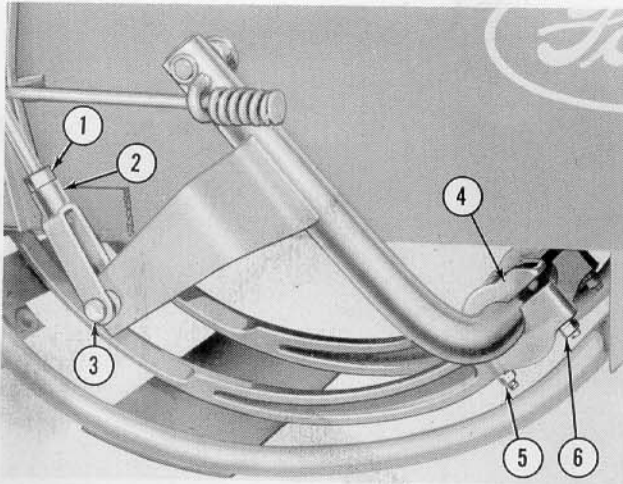
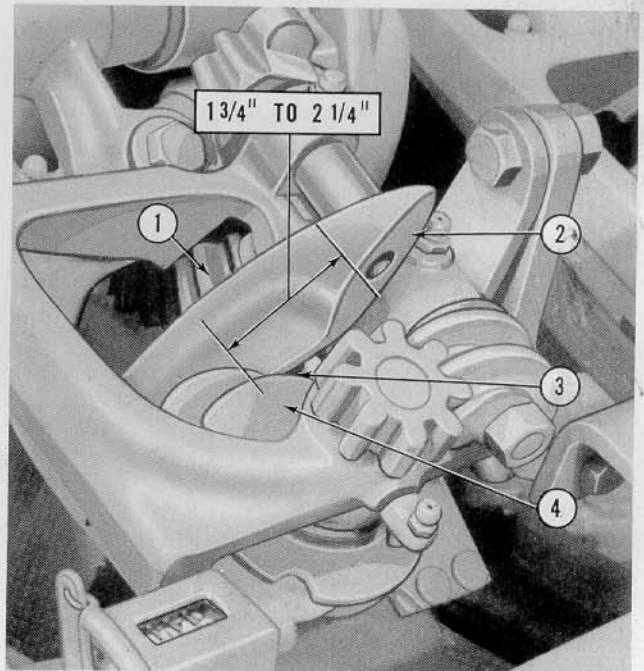

Figure 18
Figure 19
2. The clearance between the needles (2), Figure 19, and the twine discs (4) should be $\frac{1}{16}$ to $\frac{1}{8}$ inch as shown at (3). To bring the needles closer to the twine discs, loosen the rear bolts (6), Figure 18, on the needle clamp (4) and tighten the front bolts (5). To increase the distance, loosen the front bolts (5) and tighten the rear bolts (6).
3. The clearance between the needles (2), Figure 19, and the bill hook pinion (1) should be such that the needles just clear the pinion (1). To adjust, loosen the needle clamp bolts (5) and (6), Figure 18, and slide the needles to the right or left to obtain proper clearance. Retighten the needle clamp bolts securely.
4. The proper height of needle travel is determined by measuring the distance from the twine discs (4), Figure 19, to the bottom of the needle eyes. This distance should be from $1\frac{3}{4}$ to $2\frac{1}{4}$ inches as shown in Figure 19. To adjust the height, loosen the jam nut (1), Figure 18, remove the pin (3) and turn the clevis (2) on the needle yoke drive rod until the correct measurement is obtained.